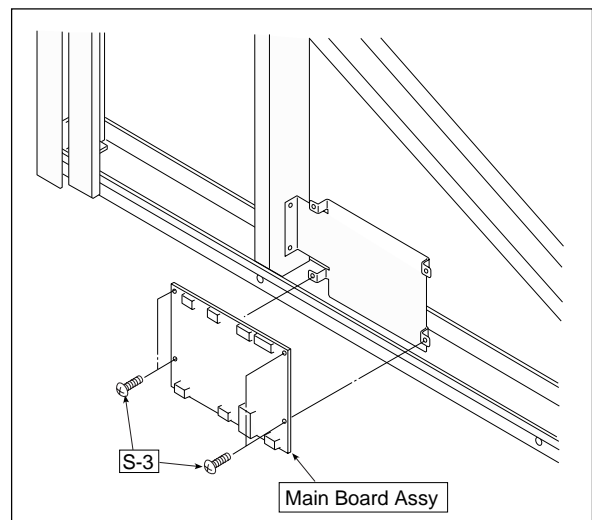

Fig. 4
2. Remove the “S-3” screws shown in Fig. 4 and then remove the Main Board Assy.